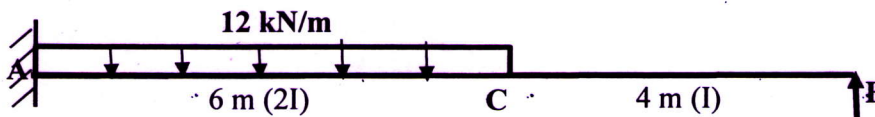

Figure 4
- 14 **Figure 4** shows a propped cantilever beam of span 5 m propped at B. Analyse using consistent deformation method and draw the BMD. 14